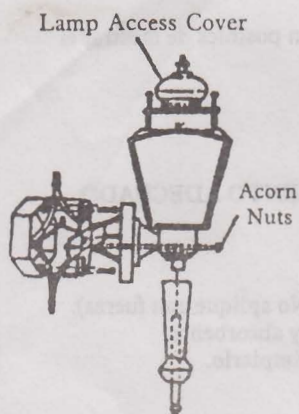

FIG.5
4. a) Place fixture over mounting screws and secure with acorn nuts provided. (FIG.5)